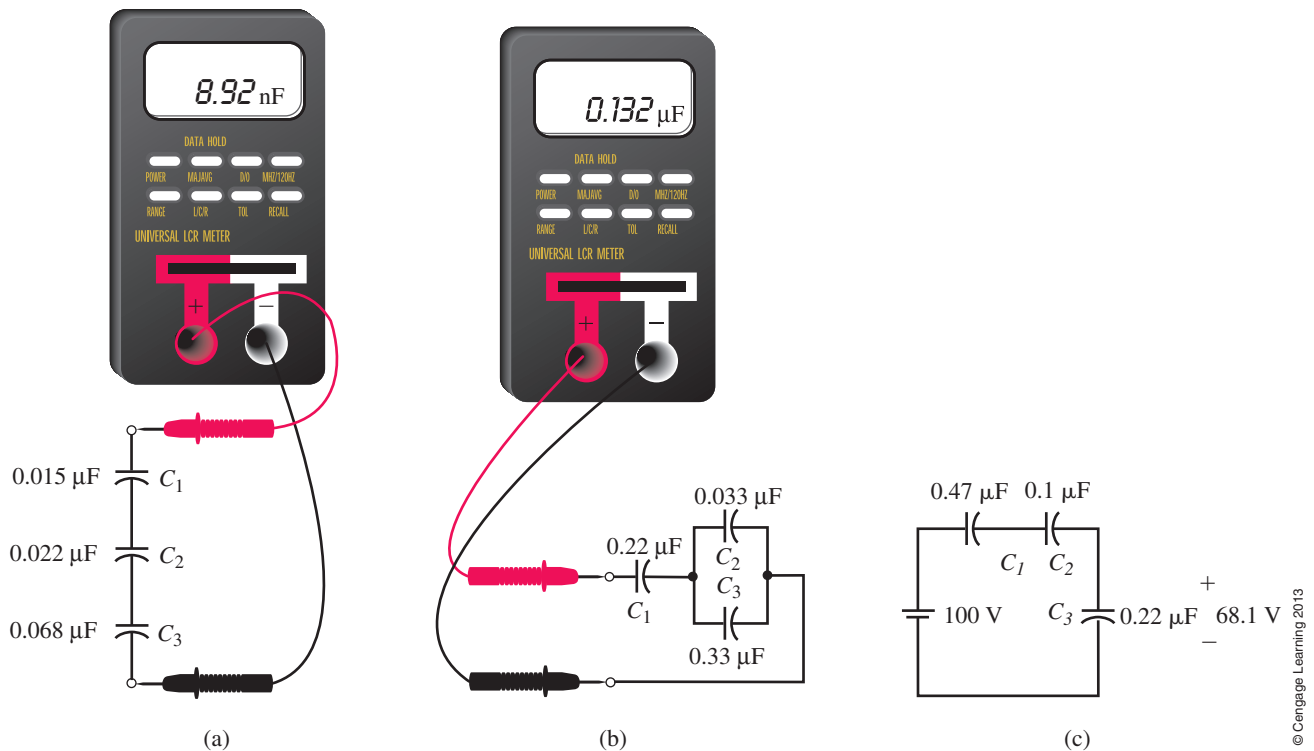

FIGURE 10-44
49. The capacitor tester in Figure 10-44 measures and displays capacitance. For each case, determine the likely fault.